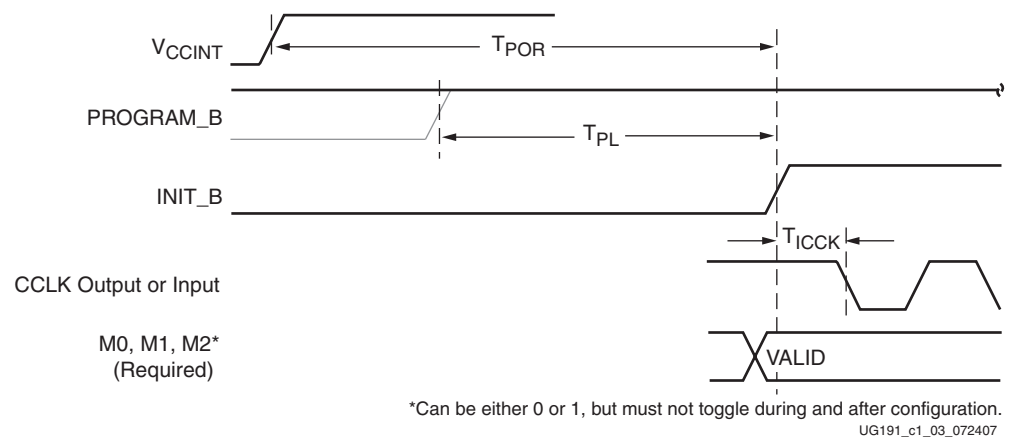

Figure 1-4: Device Power-Up Timing
Figure 1-4 shows the power-up waveforms.
Configuration memory is cleared sequentially any time the device is powered up, after the $PROGRAM_B$ pin is pulsed Low, after the JTAG JPROGRAM instruction or the IPROG command is used, or during a fallback retry configuration sequence. During this time, I/Os are placed in a High-Z state except for the dedicated Configuration and JTAG pins. $INIT_B$ is internally driven Low during initialization, then released after T_{POR} (Figure 1-4) for the power-up case, and T_{PL} for other cases. If the $INIT_B$ pin is held Low externally, the device waits at this point in the initialization process until the pin is released.
- The first is to hold the INIT_B pin Low during initialization (Figure 1-4). When INIT_B has gone High, configuration cannot be delayed by subsequently pulling INIT_B Low.